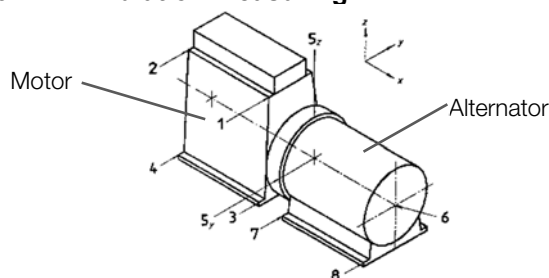

Figure 6.1: Vibration measuring points according to ISO 8528-9 standard
**Figure 6.1 caption:**
Check the vibration level of the alternator at the points shown in Figure 6.1. If the measured values are above the recommended levels, the causes should be investigated and solve it.